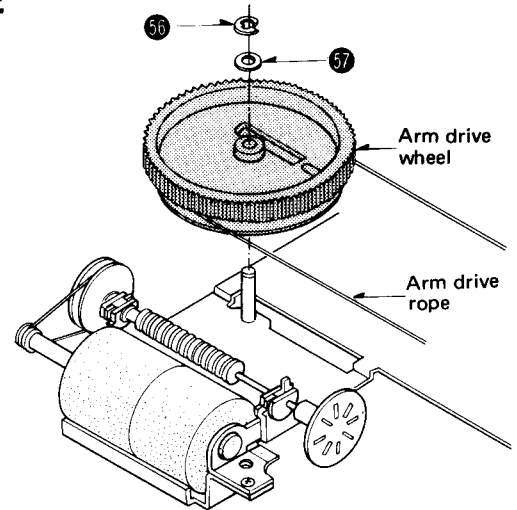

Fig. 14
2. Remove the E-ring (56) and washer (57) to remove the arm drive wheel. (Fig. 14)